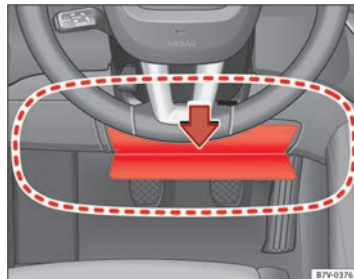

Fig. 25 On the driver side: Radius of action of the knee airbag.
The area framed red → fig. 25 (A) is covered by the knee airbag when it is deployed (deployment area). Therefore, objects should never be placed or mounted in these areas.